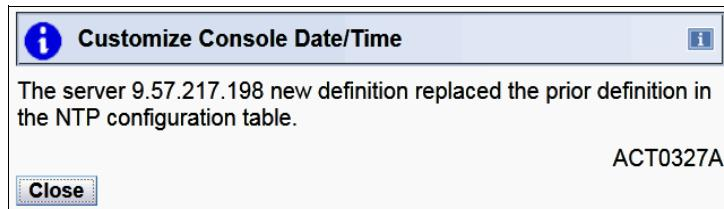

Figure 8-20 Completed message for adding NTP with Authentication
11. The next window (Figure 8-20) indicates that the modification is completed. Click **Close**.